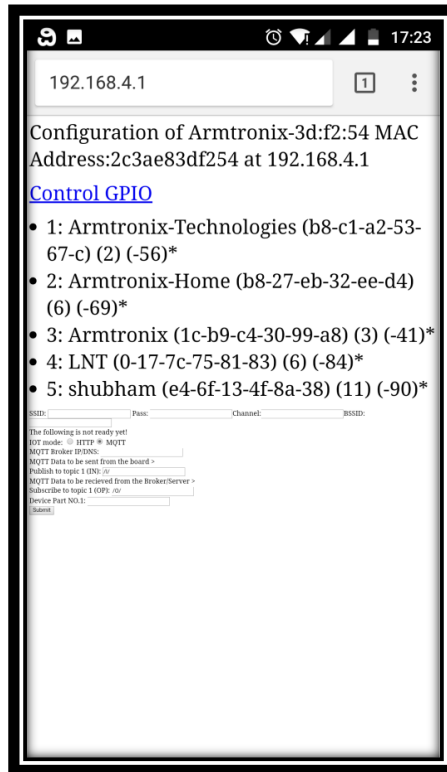

Figure 9: Accessed webpage of DIO module
- xii. Clicking on Enter button after entering default IP address, you will be able to access its webpage as shown in Figure 9.